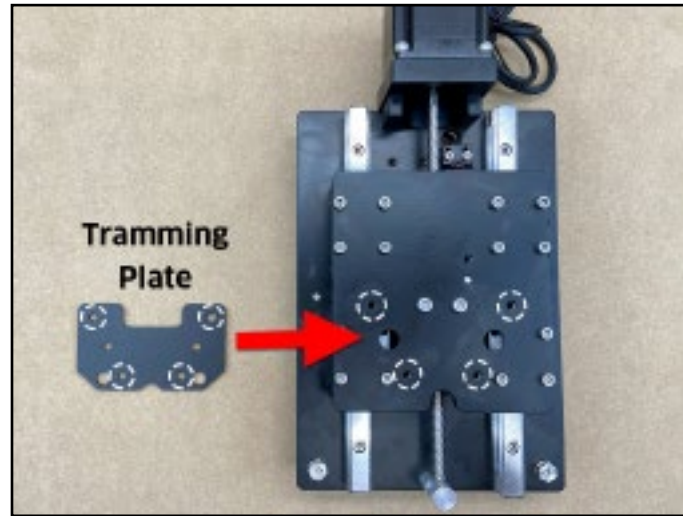

Figure 3-9
1. Position the tramming plate with the short legs extending up in a “U” shape. See **Figure 3-9**.